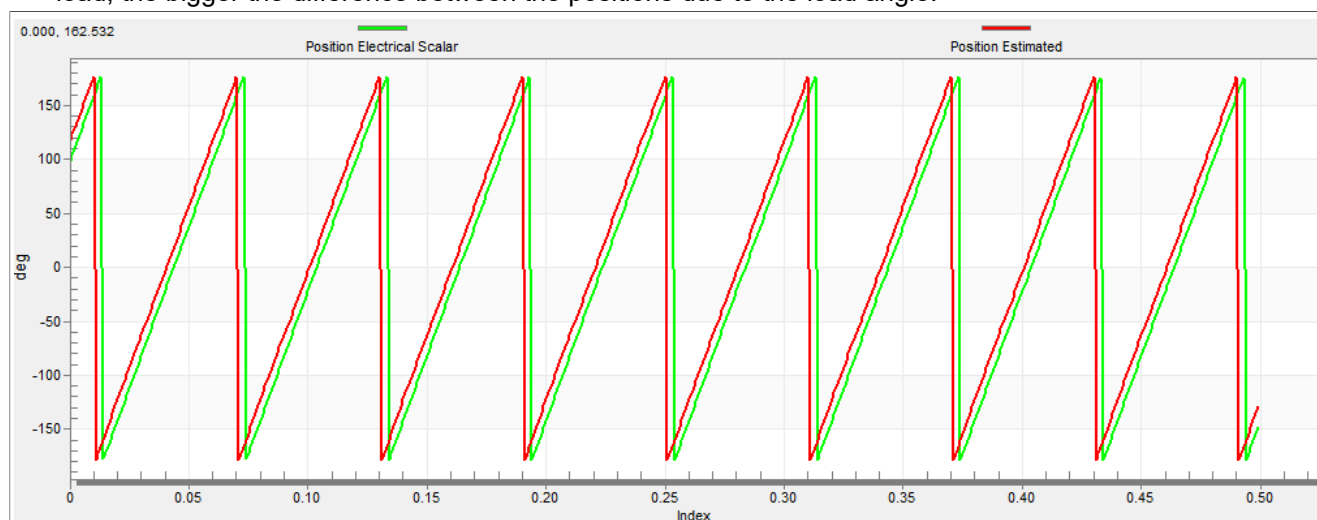

Figure 27. Generated and estimated positions
6. Select the "Position" recorder to check the observer functionality. The difference between the "Position Electrical Scalar" and the "Position Estimated" should be minimal (see Figure 27) for the Back-EMF position and speed observer to work properly. The position difference depends on the motor load. The higher the load, the bigger the difference between the positions due to the load angle.